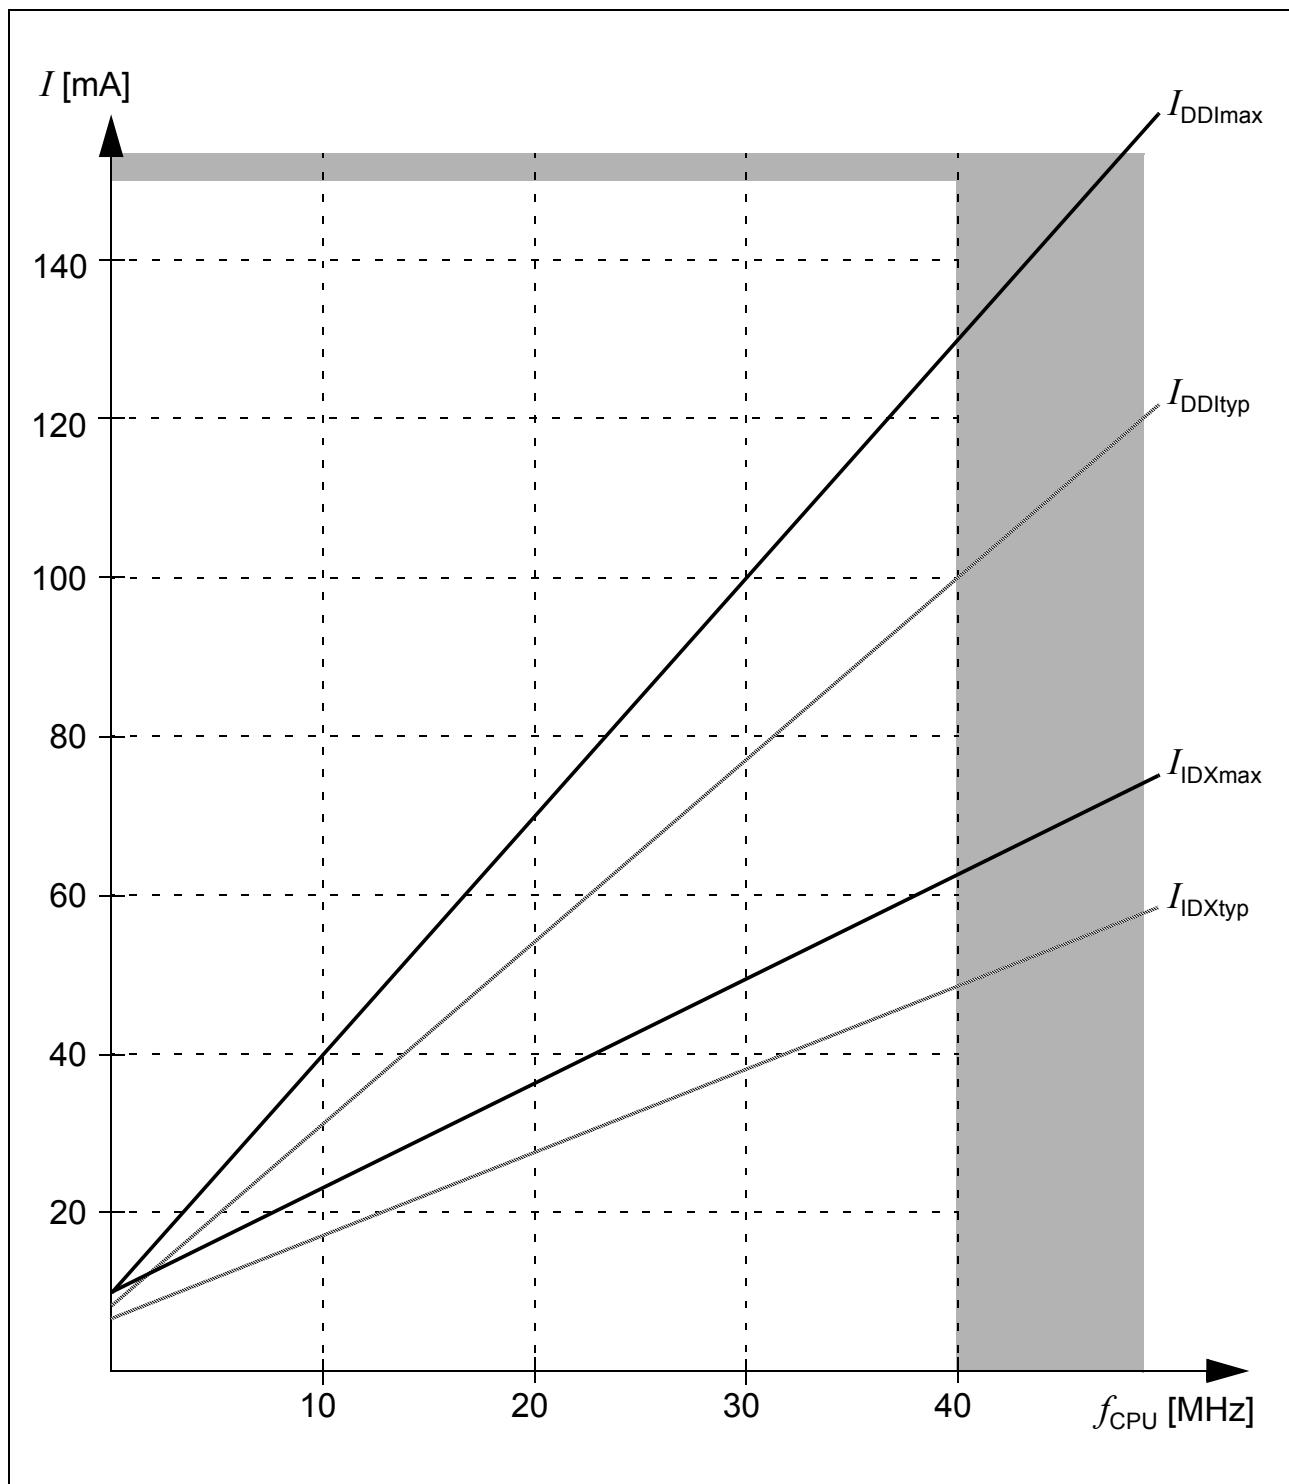

Figure 11 Supply/Idle Current as a Function of Operating Frequency
- The supply current is a function of the operating frequency. This dependency is illustrated in Figure 11. These parameters are tested at $V_{DDI_{max}}$ and maximum CPU clock frequency with all outputs disconnected and all inputs at V_{IL} or V_{IH} .